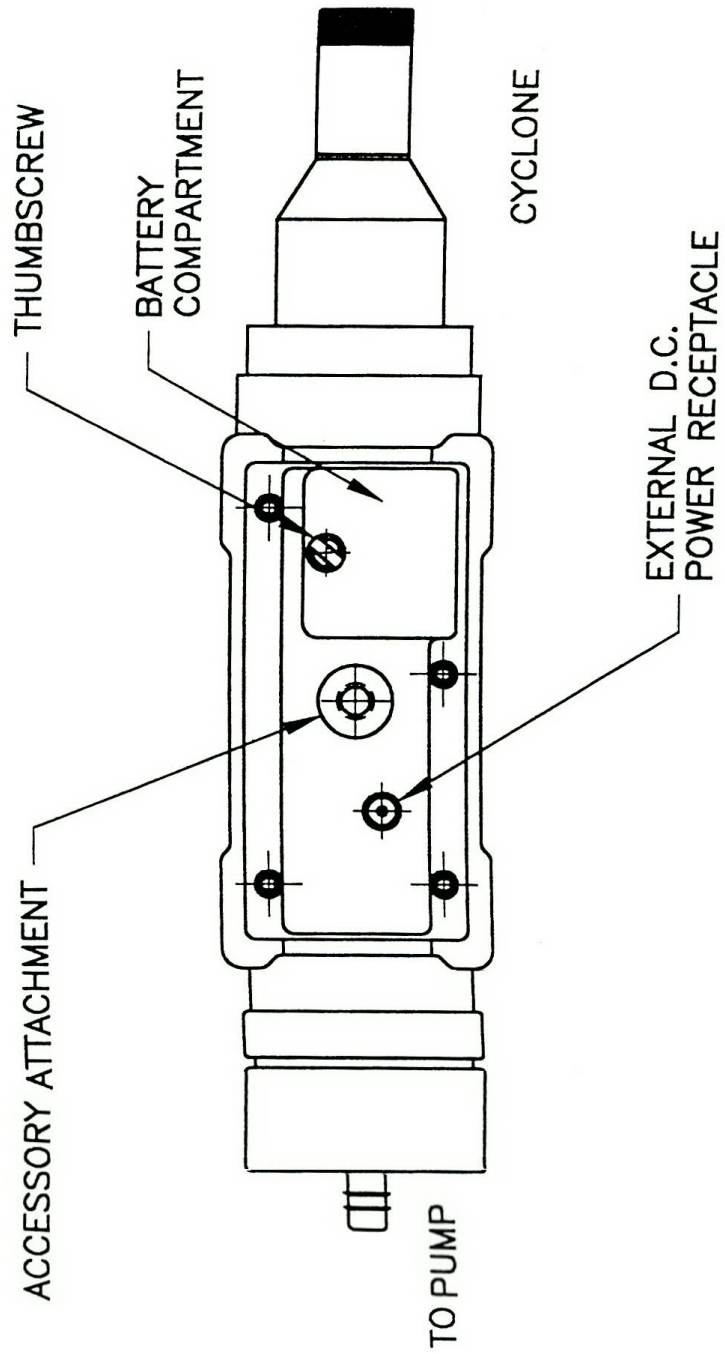

Figure 4 - BOTTOM VIEW (MODEL pDR-1200)
- Tripod mounted. The unit can be attached to any standard tripod using the threaded opening on the bottom base (see accessory attachment fitting on Fig. 4).